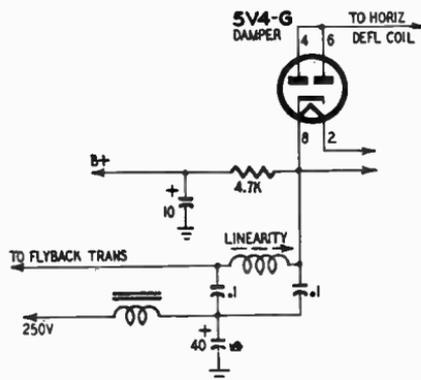

Fig. 2-N. *Damper tube and horizontal-linearity circuit.*
**SERVICE:** Probably caused by defective component in horizontal-output or HV section. Check tubes. Test on tubes should be aimed at slow warmup. Substitution is preferred to see if condition is corrected thereby. Check the cathode of the damper tube or at each end of horizontal-linearity coil. See Fig. 2-N. There may be an intermittent condition in the high-voltage transformer. Be sure socket of HV rectifier has good contact with tube pins, and that there are no loose connections or poorly soldered joints in the horizontal-sweep system.